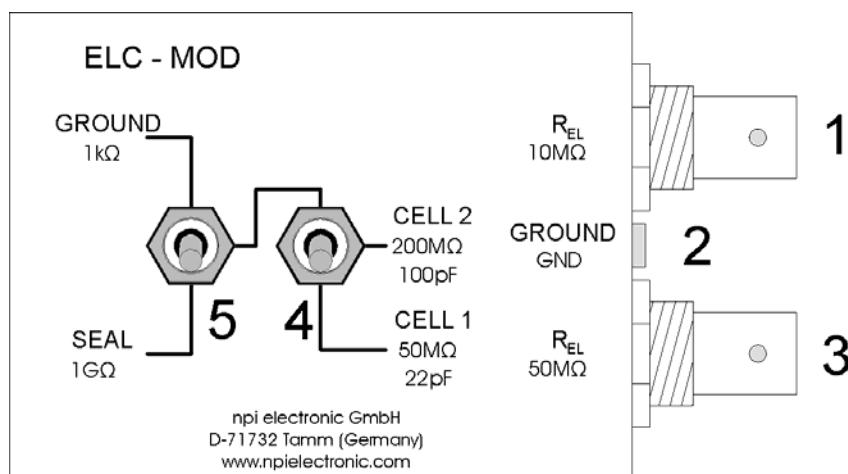

Figure 7: passive cell model
- Set switch #4, Figure 7 to the upper position.
- Set switch #5, Figure 7 to GROUND position. The  $1\text{k}\Omega$  resistor simulates the resistance of the bath solution. This can be used to train cancellation of offsets, using the bridge balance and using the capacity compensation.
- Set switch #5, Figure 7 to SEAL position. The  $1\text{G}\Omega$  resistor simulates the SEAL resistance when forming a GIGASEAL in patch clamp experiments.
Intracellular recordings can be mimicked with one of two cells with different properties. Use the  $50\text{ M}\Omega$  electrode connector (#1, Figure 7) for an experiment with sharp electrodes or the  $10\text{ M}\Omega$  electrode connector (#3, Figure 7) for simulating an experiment with patch electrodes.
- Switch the CELL membrane switch (see #4, Figure 7) to the desired position (CELL 1 or CELL 2).
- Connect the MICROELECTRODE connector of the headstage to ground. If parasitic oscillations occur use a 10 k $\Omega$  resistor for grounding. If you use a cell model set #3 in Figure 7 to GROUND.